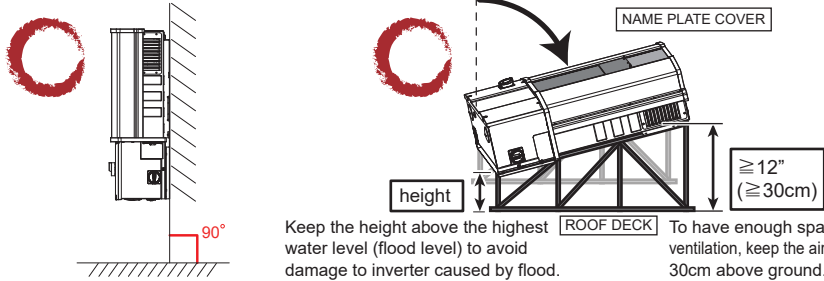

Figure 3-9: Permitted mounting positions
1. Refer to **Figure 3-9**. Ensure the mounting stand meets the mounting dimensions shown, with the large plate at the lowest end of the stand. Ensure the stand is sufficiently strong enough to carry the inverter weight.
2. For vertical installation, if the inverter is exposed to sunlight(without shading), **a name plate cover must be installed** to extend the lifetime of LCD display. Please refer to **Figure 3-9** for an example of name plate cover.
3. For tilt installation, **a name plate cover must be installed** to add protection against harsh environmental conditions such as: direct sunlight, hail, snow and pecking from birds. Please refer to **Figure 3-9** for an example of name plate cover.